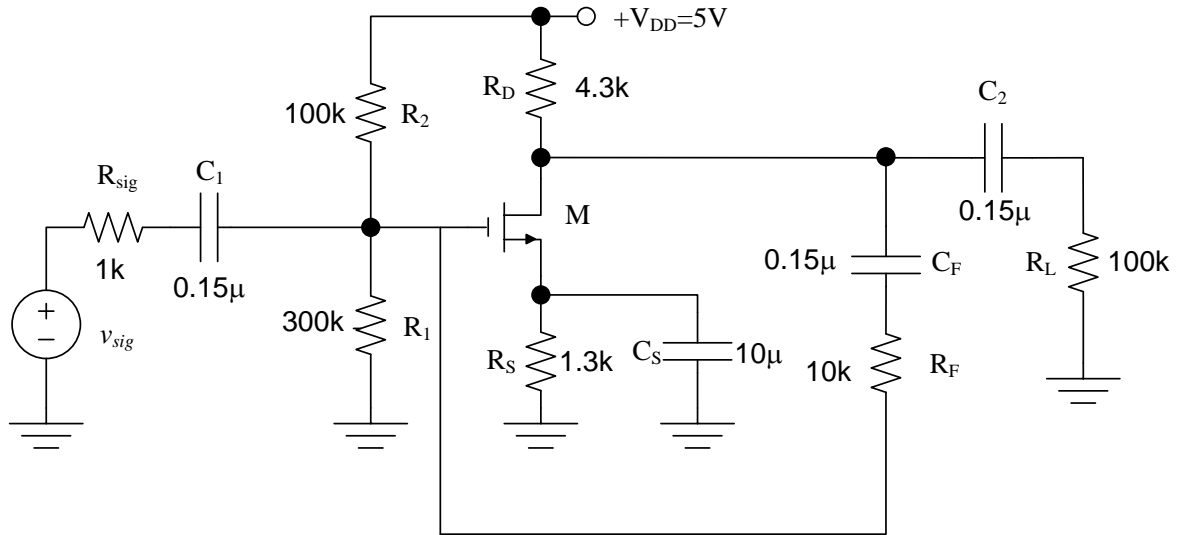

Figure 1 Shunt-Shunt Amplifier based on MOSFET
A typical MOSFET based shunt-shunt feedback amplifier is shown in Figure 1.
1. Recall from Experiment 1, the values of A_M , f_L , f_H , BW and GB for the amplifier of Figure 1 but without feedback. Also, calculate the input resistance and the output resistance without feedback.
2. For the circuit shown in Figure 1, use the feedback techniques to calculate A_M , f_L , f_H , BW and GB for this amplifier with feedback.